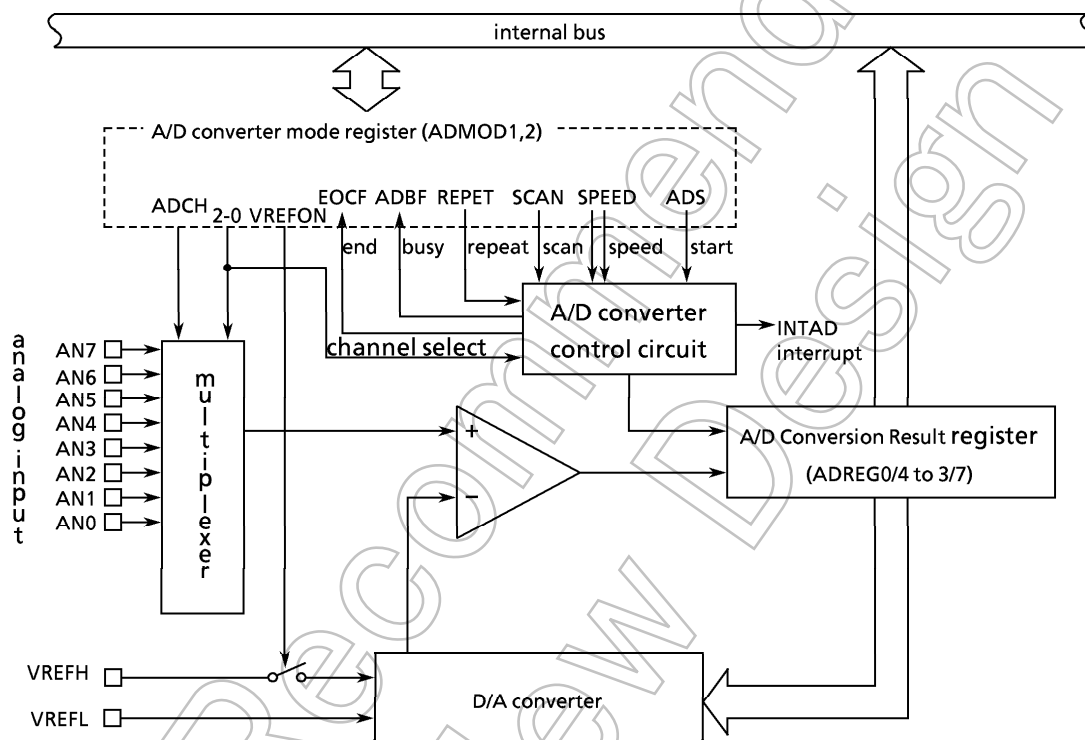

Figure 3.12 (1) Block Diagram of A/D Converter
Figure 3.12 (1) is a block diagram of the A/D converter. The 8-channel analog input pins (AN7 to AN0) are shared by input-only port C and can thus be used as input port pins.